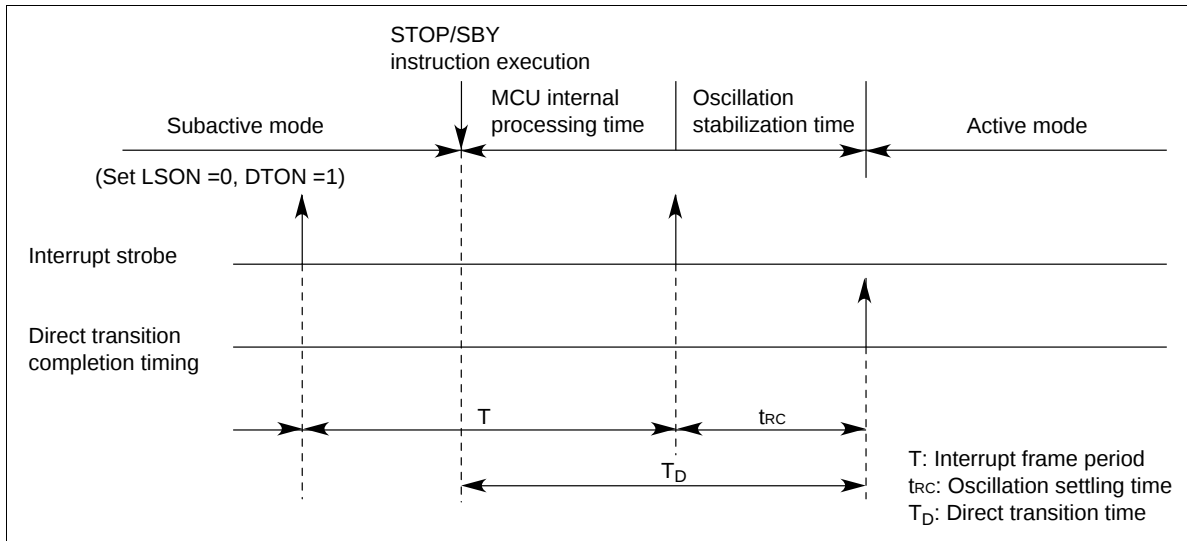

Figure 18 Direct Transition Timing
- After the lapse of the MCU internal processing time and the oscillation settling time, the MCU automatically switches from subactive mode to active mode (figure 18).